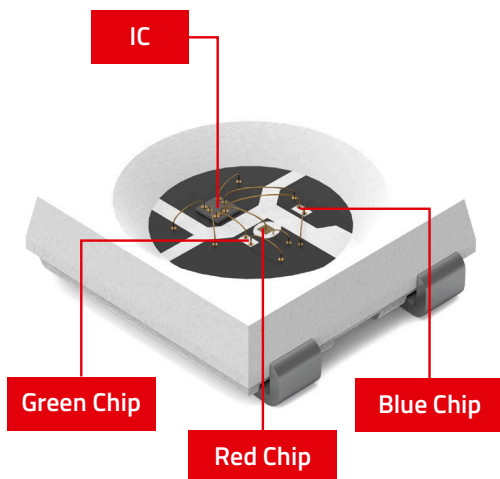

Figure 1: Illustration of the internal components of an ICLED (WE PN: 1315050930002)
ICLEDs, also referred to as addressable LEDs or smart LEDs, are light-emitting diodes (LEDs) that incorporate an integrated circuit (IC) within their design (as seen on Figure 1). This device, by means of pulse width modulation (PWM), enables individual control of the red, green, and blue chips in the package. Thus, granting fine and precise control for color mixing solutions.